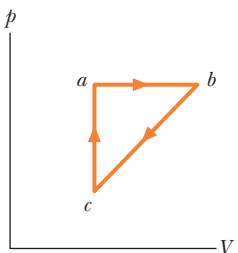

Figure 18-43 Problem 50.
•50 **GO** A lab sample of gas is taken through cycle  $abca$  shown in the  $p$ - $V$  diagram of Fig. 18-43. The net work done is  $+1.2$  J. Along path  $ab$ , the change in the internal energy is  $+3.0$  J and the magnitude of the work done is  $5.0$  J. Along path  $ca$ , the energy transferred to the gas as heat is  $+2.5$  J. How much energy is transferred as heat along (a) path  $ab$  and (b) path  $bc$ ?